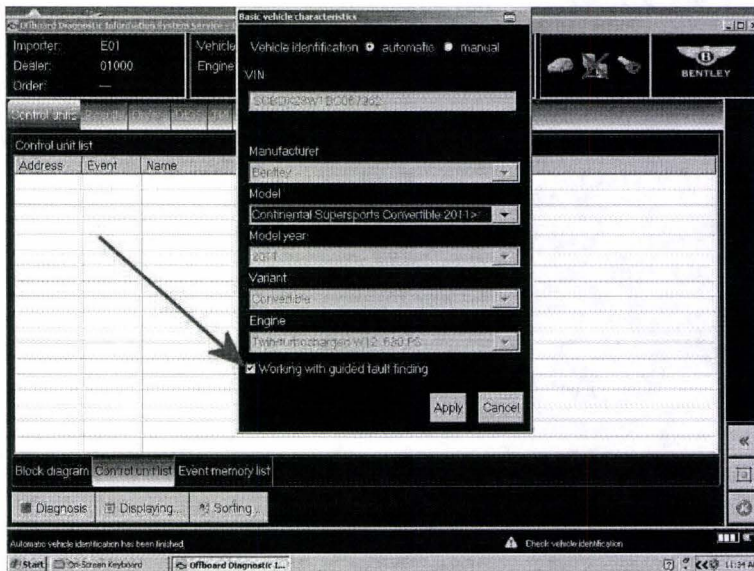

Figure 1
- Ensure the Working with guided fault finding box is ticked (Figure 1) - follow all on screen prompts and allow the guided fault finding control module sweep to complete